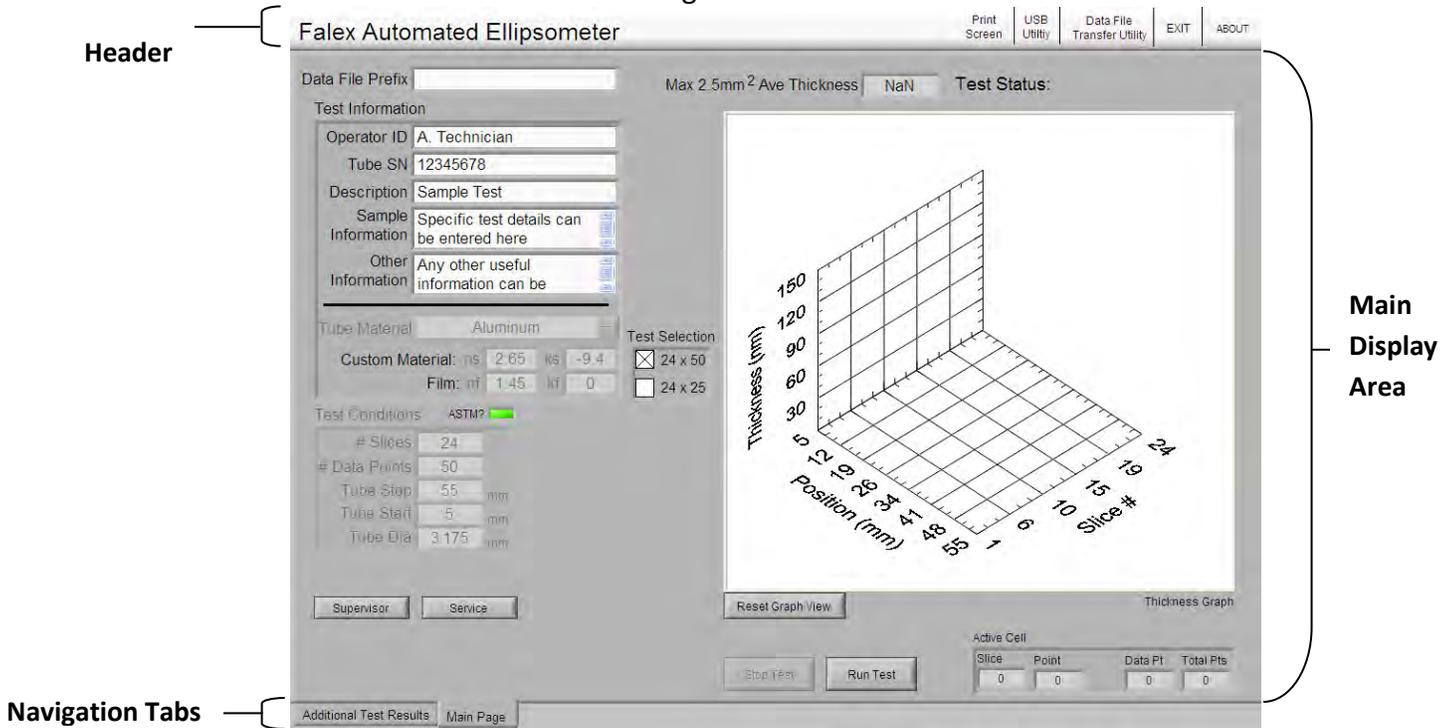

Figure 19 - Display Component Areas
The displays are made up of three (3) areas (figure 19), with each area having special functionality. The various display areas are: